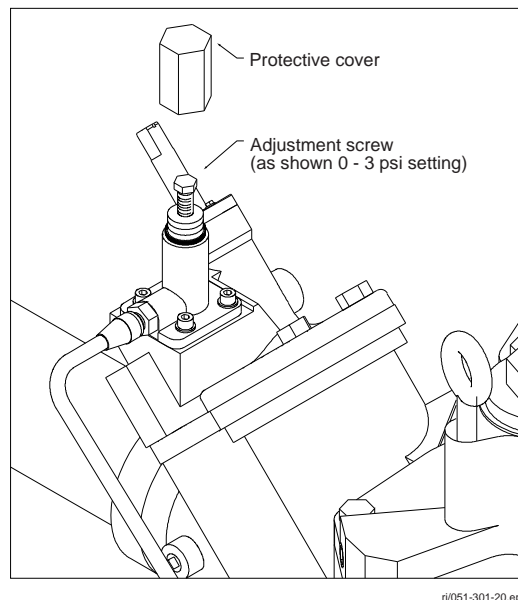

Figure 18. Pressurstat - Pressure Adjustment
- b. Remove the protective cover from the Pressurstat (see Figure 18) and turn the Pressurstat adjustment screw counter clockwise until the screw protrudes 3/4", this will relieve the line pressure to "0" psi.
2. Remove the protective cover (see Figure 18).